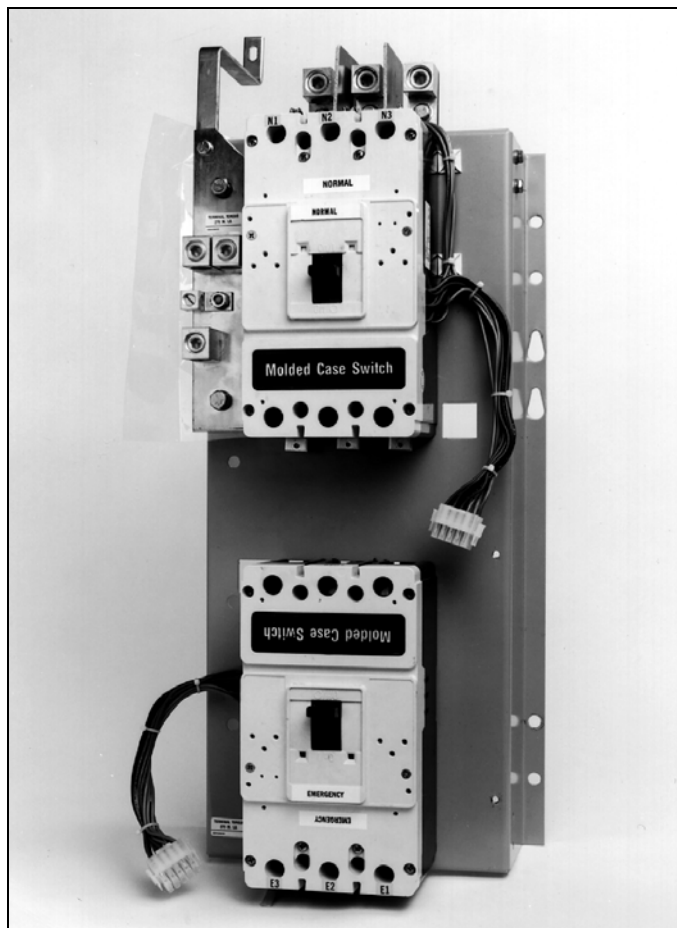

Figure 22. Power Panel Removed from the Enclosure (with the Transfer Mechanism Removed for Clarity - 225-1200 A Models).
Step 3: Remove the four bolts that secure the power panel in the enclosure. Depending upon the size of the panel, it may be advisable to have assistance with the removal. Once the power panel is free, carefully move it to a solid work surface (Figure 22).